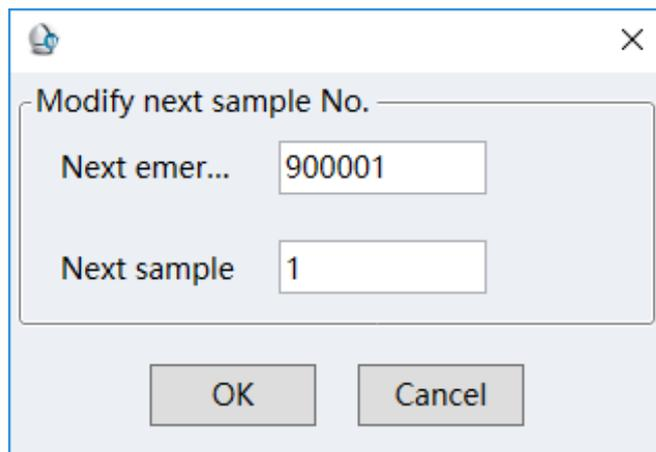

Figure 5-8 Next sample
- 4)  "Sample No": You can modify the next emergency and next sample in the resulting dialog box, as shown in Figure 5-8.